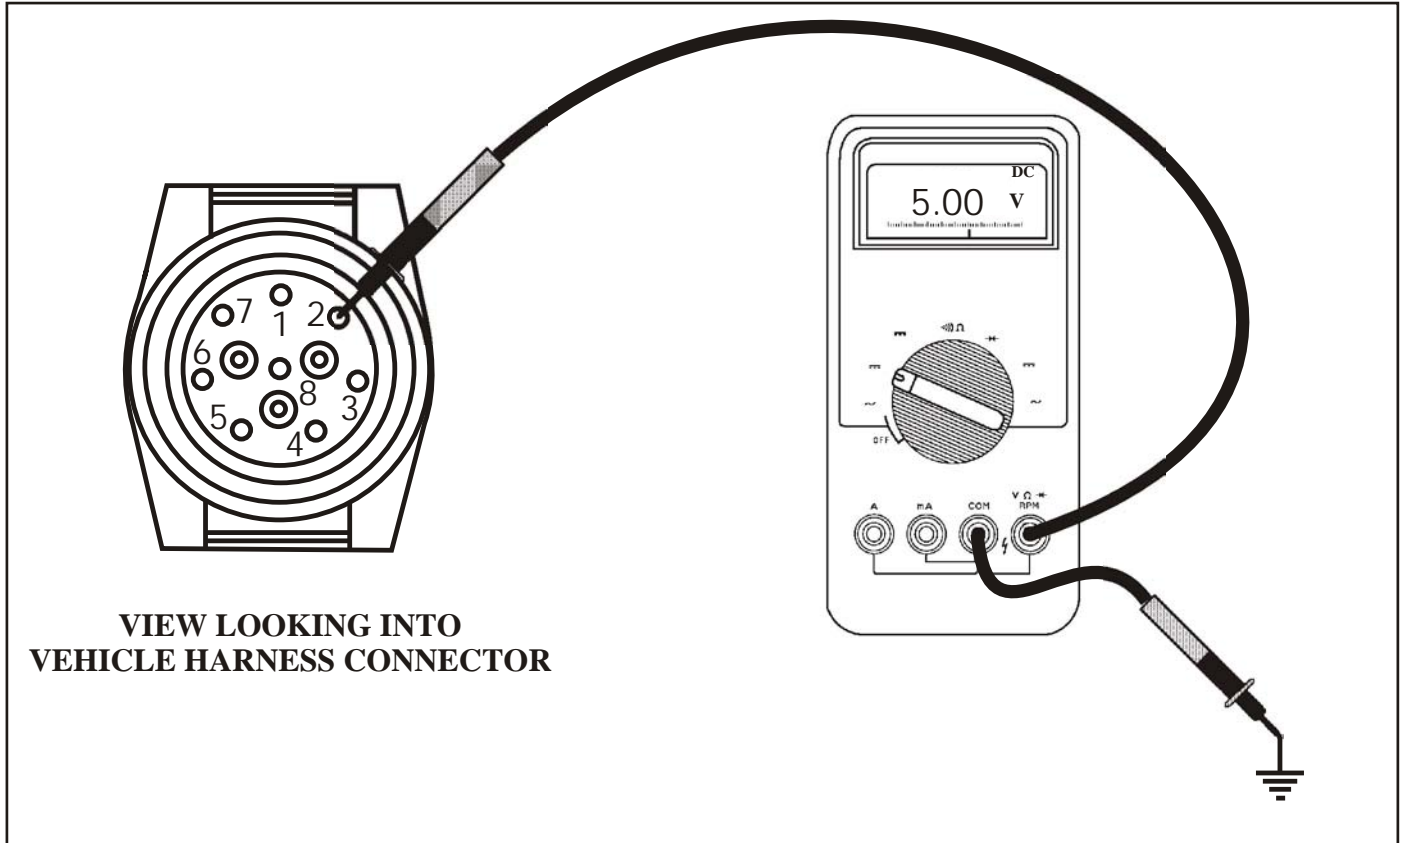
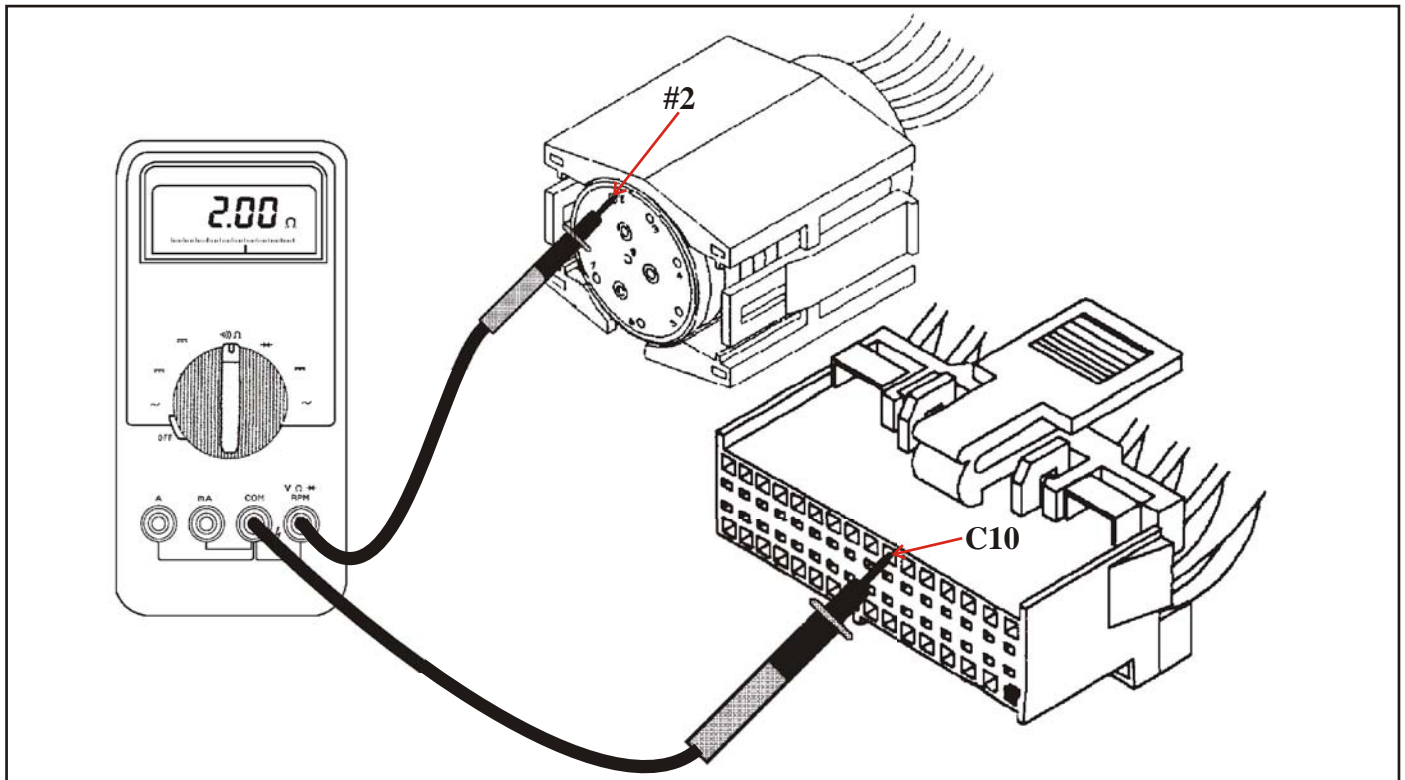

Figure 11
Figure 12
- (d) Plug the transmission control module connector back into the computer, and with the engine off and ignition switch in the ON position, check for 5 volts at cavity number 2 in the vehicle harness connector, as shown in Figure 11. If no voltage is seen, unplug the transmission control module connector and test for continuity between cavity C10 at the transmission control module connector and terminal number 2 at the vehicle harness connector, as shown in Figure 12. If 5 ohms or less is indicated, the computer will need to be replaced. If an open circuit is indicated, repair or replace the broken wire between C10 and terminal 2.